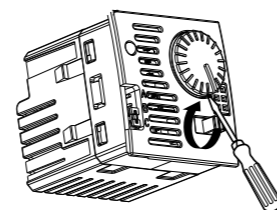

Fig. 2
3. leverage with the tip of a screwdriver under the knob as shown in fig. 2 until it is completely extracted.